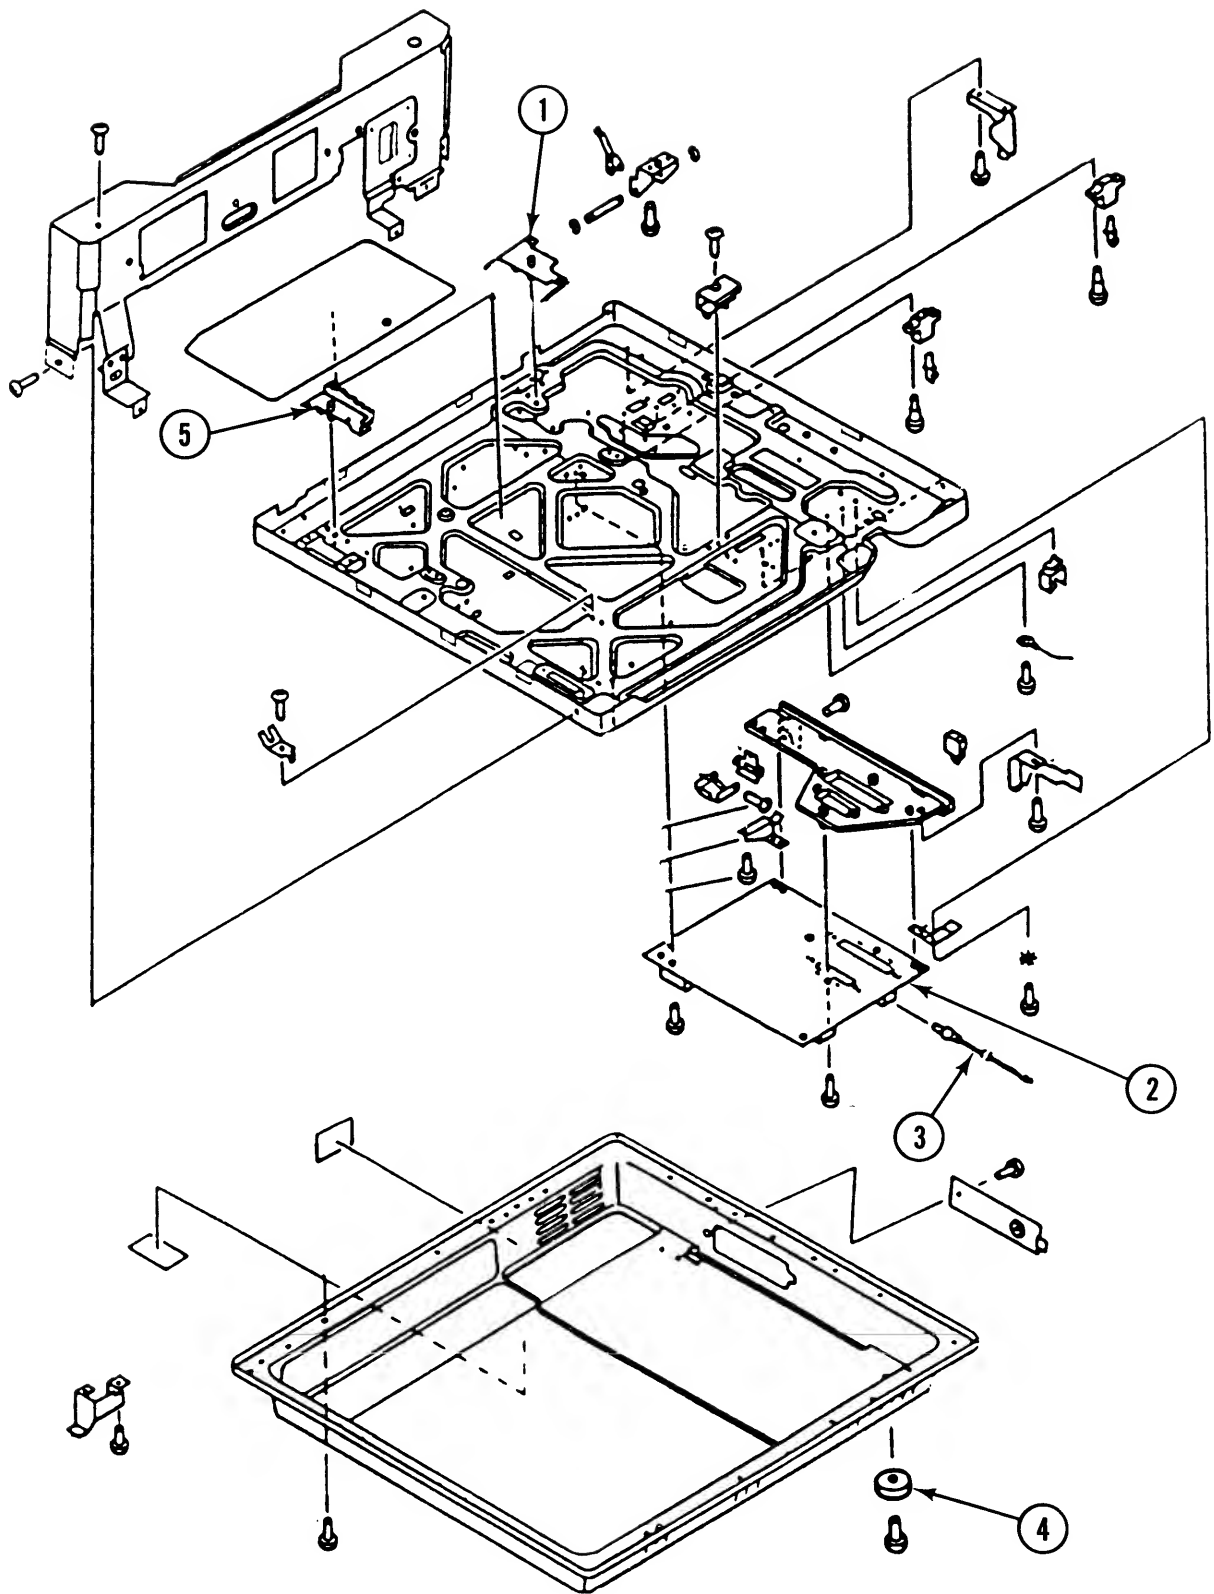

FIGURE 4
IPL.9	Bottom Case, #1 (Figure 4)
□ BOTTOM CASE, #1 (Figure 4)